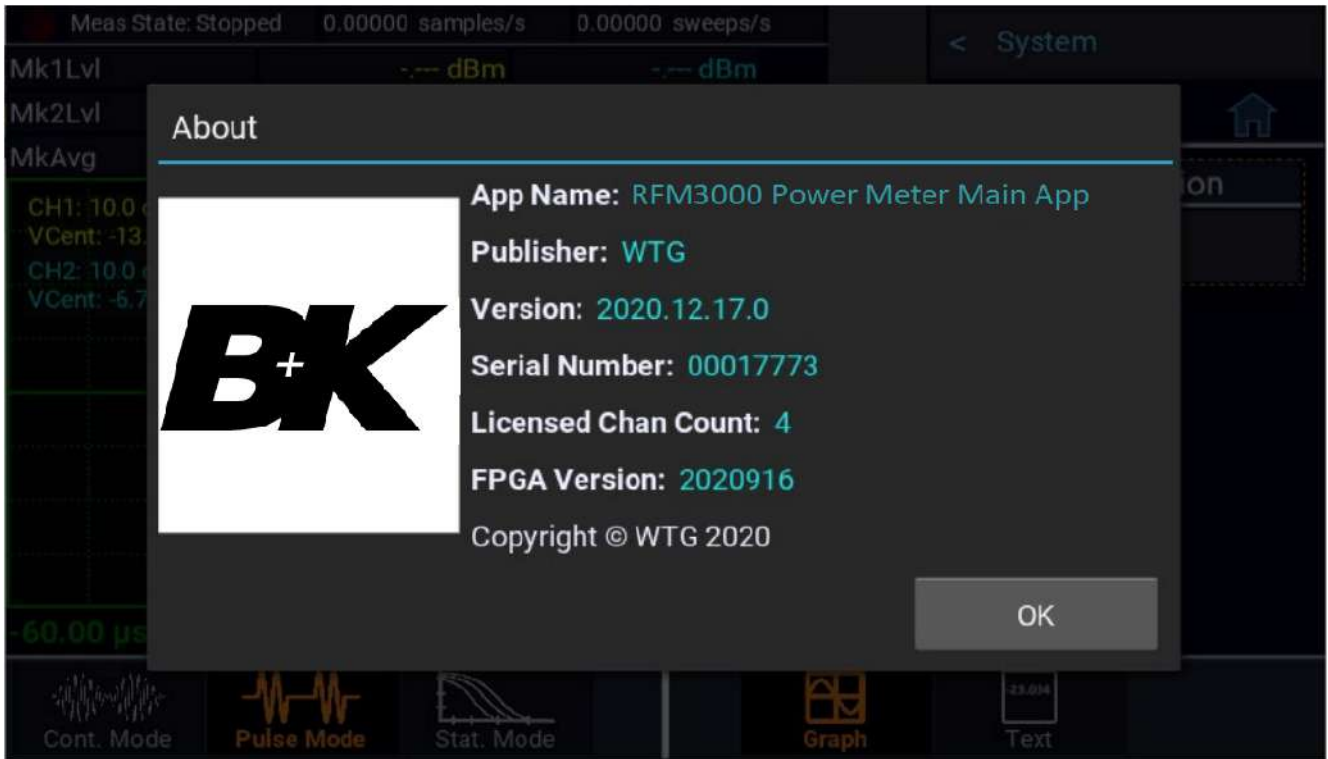

Figure 2.2 Configuration Report Display
6. On the front panel, press the select key to bring up the on-screen menu. From the Main menu, use the touch screen or the navigation keys on the front panel to browse to System > Reports > Configuration and select Show. A display similar to figure 2.2 will appear.